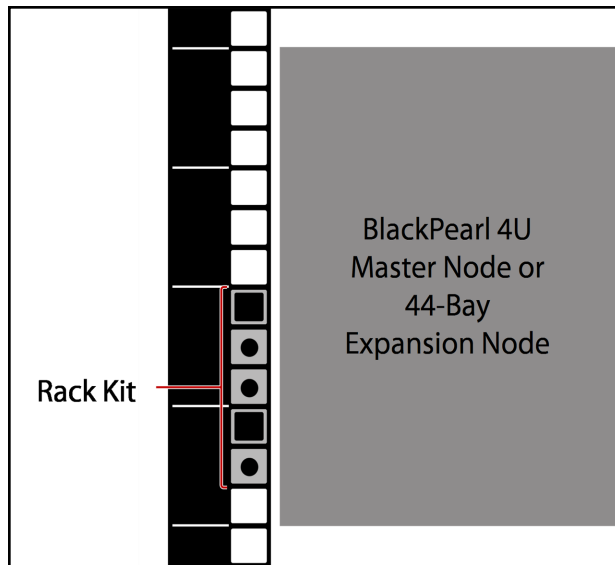
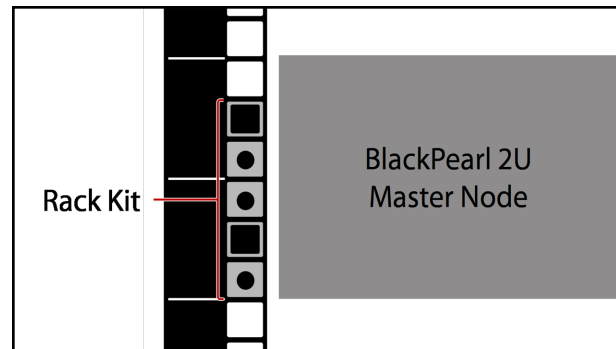

Figure 11 Relationship between rack kit position and the position of the 4U chassis.
Figure 12 Relationship between rack kit position and the position of the 2U chassis.
1. Determine the vertical position of the rack mount kit in the rack. Figure 11 and Figure 12 show the relationship of the rack kit position in the rack and the resulting position of the chassis.